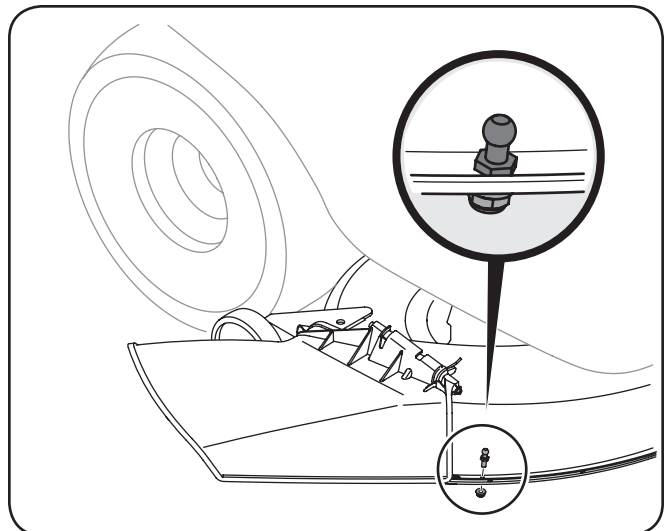

Figure 4-20
10. Install the ball pin from your hardware pack into the hole in the front of the mower deck as seen in Fig. 4-20, and secure with the supplied flange lock nut.